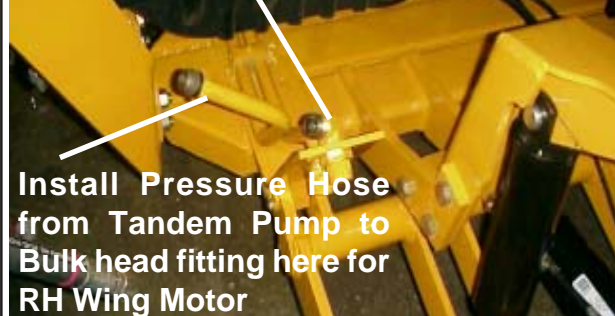

Figure 16
21. Connect Motor Pressure Supply Hoses to Main Frame Cross Member. The Tandem Pump has two pressure hoses. The Rear (closest to Tractor Engine) is the supply for the RH Wing Motor. The Outer Pump is the LH Wing Motor Pressure Supply. The hose for the RH Wing should be marked with a red plastic tie on it, the other hose is not identified. Connect these two hoses at the Main frame crossmember now (See Figure 16 & 17)